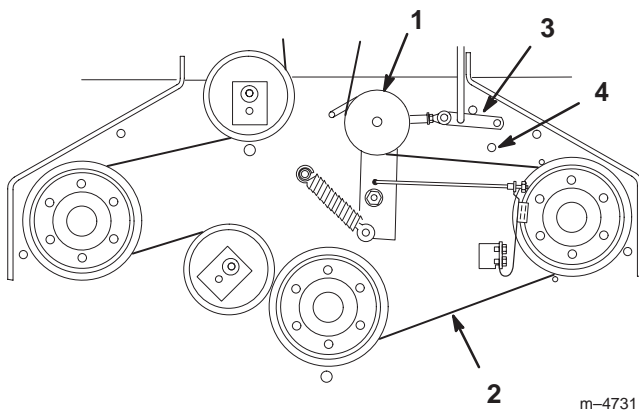
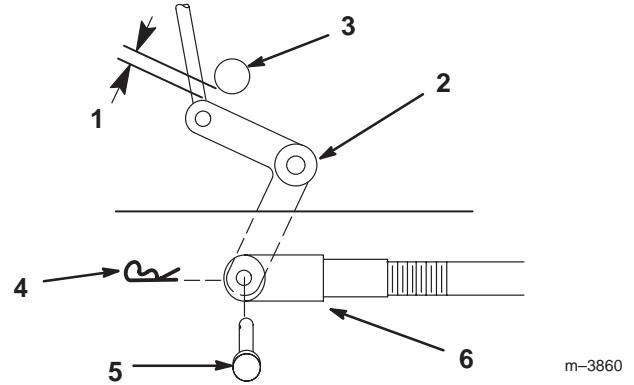

Figure 47
Figure 48
3. Remove mower belt (Fig. 47).
7. Install the mower belt (Fig. 47).
3. Remove idler pulley and then remove worn belt (Fig. 47).
Note: Proper belt tension is 10–15 lbf. (44–67 N) with the belt deflected a 1/2 in. (13mm) halfway between pulleys (Fig. 47).
7. Engage PTO lever and check the clearance between the bellcrank and the transmission output shaft (Fig. 48). Space should be 1/16–1/8 in. (2mm–3mm).
8. Remove hairpin cotter and clevis pin from bellcrank. Rotate clevis clockwise on rod to increase or counterclockwise to decrease clearance (Fig. 48).
9. Disengage the PTO. If the assist arm does not contact the front stop on the mower deck (Fig. 47), readjust the clevis to bring the bellcrank closer to the transmission output shaft (Fig. 48).